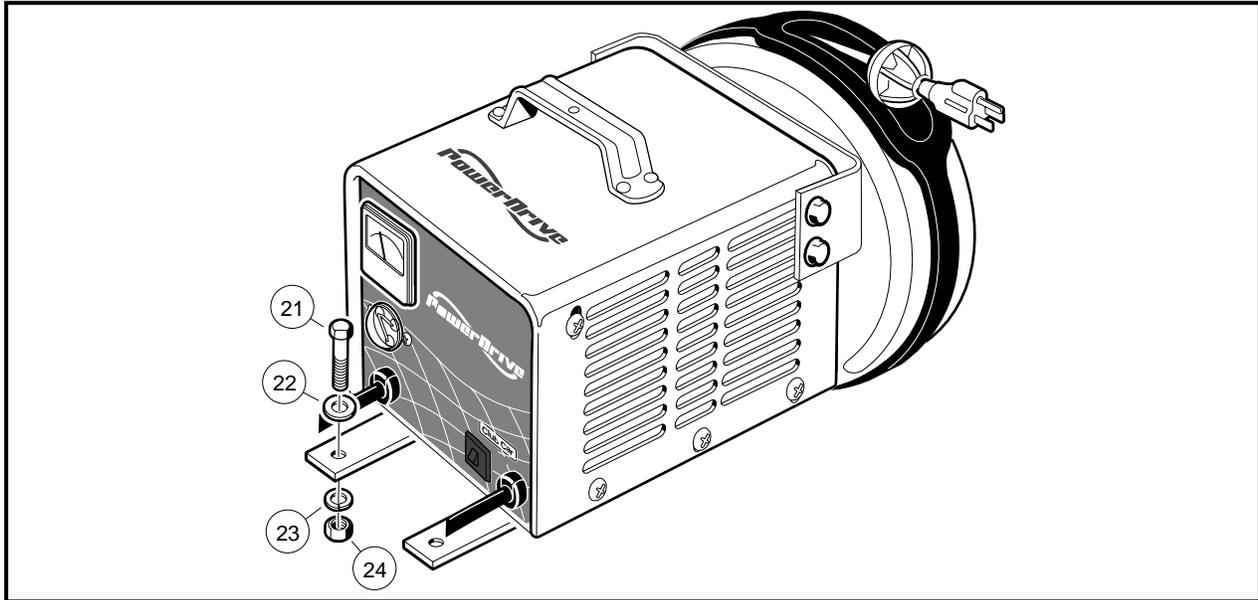

Figure 14-25 Onboard Charger with Reel
2. Remove four bolts (21), flatwashers (22), lockwashers (23) and nuts (24) from charger mounting brackets (**Figure 14-25, Page 14-26**).
- CONNECT BLACK 10 GAUGE CHARGER DC CORD WIRE TO RECEPTACLE BEFORE INSTALLING FOUR BOLTS, NUTS, FLATWASHERS, AND LOCKWASHERS IN THE CHARGER MOUNTING BRACKETS (**FIGURE 14-25, PAGE 14-26**). TIGHTEN BOLTS TO 65 IN.LB (7.3 N-M).